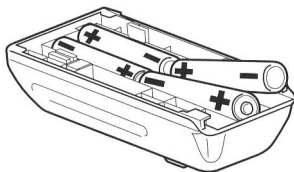

Figure 4.6
2. Insert (or remove) four AA (LR6) alkaline batteries (Figure 4.6).